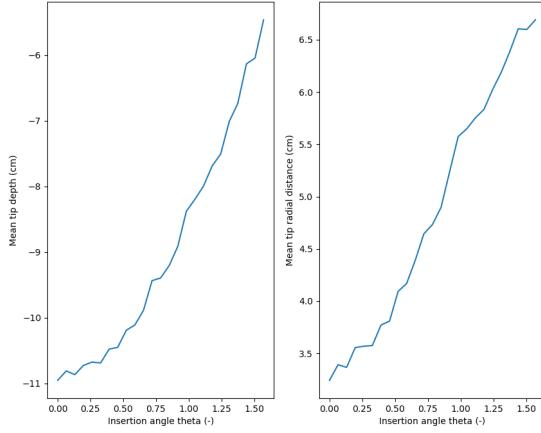

Figure 8: Sensitivity of mean root tip depth (left) and radial distance (right) to the insertion angle theta (Example 2f)
- 74-83 Creates the resulting Figure 8. Note that the resulting curves become smoother, if the number of runs is increased (L28).